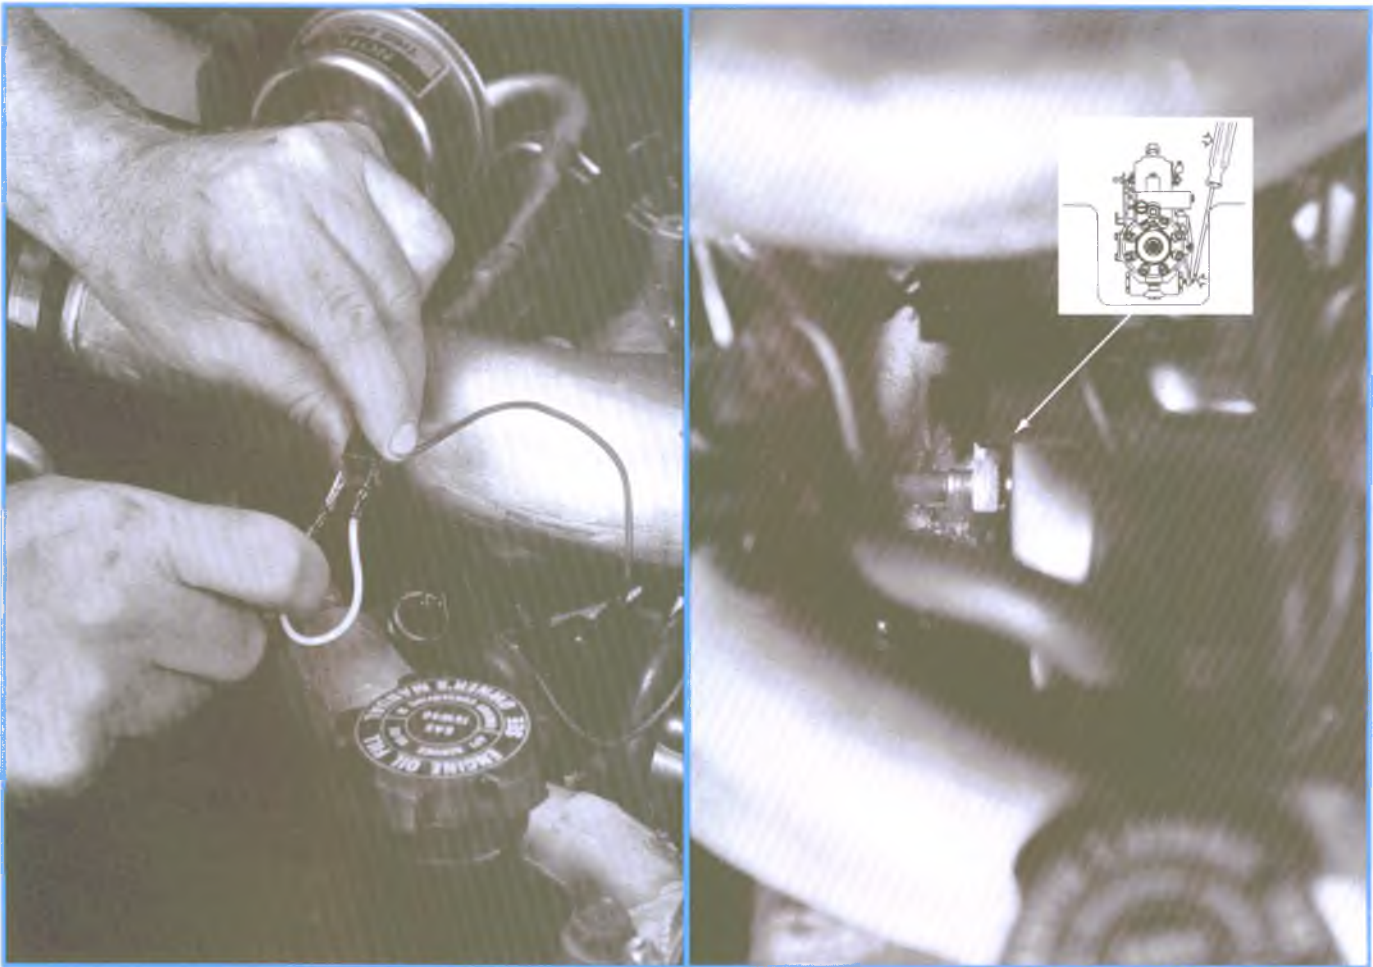

Figure 7-49, Injection System Advance Mechanism Checks
4. Check the Housing Pressure Cold Advance (HPCA) solenoid operation (refer to Figure 7-49):
5. Check the injection pump automatic advance mechanism piston for movement (refer to Figure 7-49):